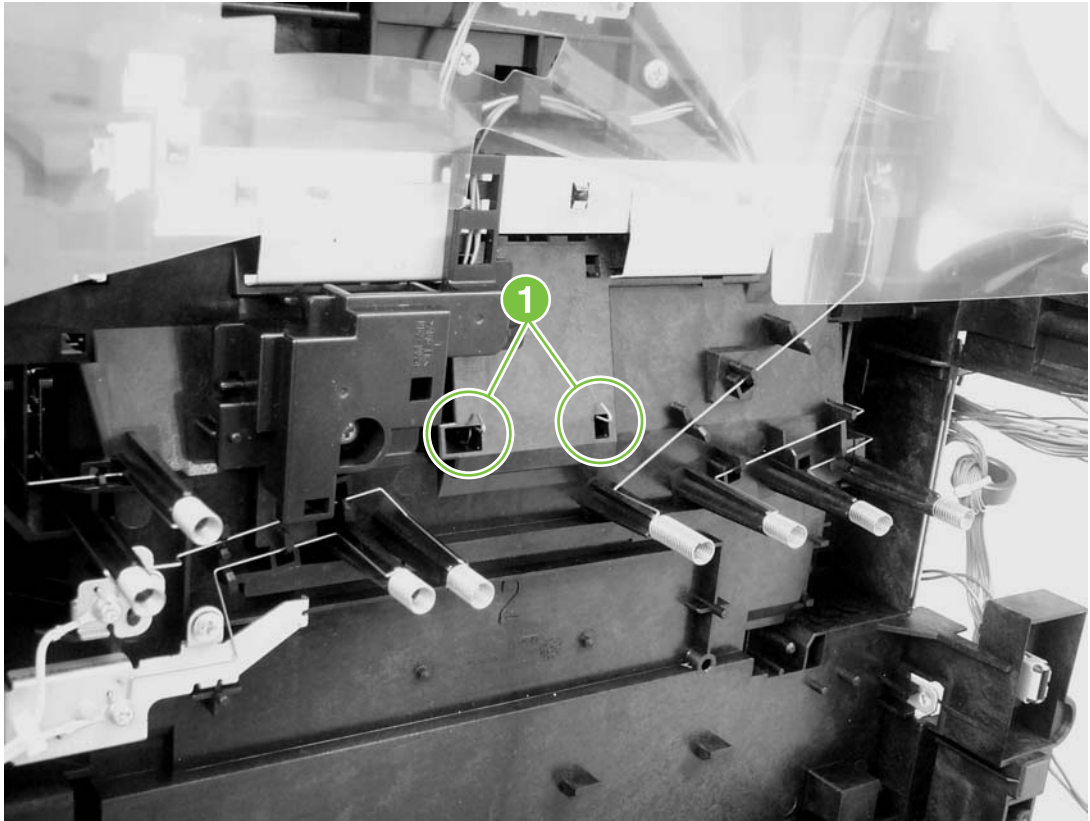

Figure 5-87 Replacing the feed-drive shaft and belts (2 of 8)
- 15 Push the spring clip hooks through the slots in the bottom of the device, and then push the hooks toward the front of the device to fasten them to the bottom of the device (see Figure 5-87 Replacing the feed-drive shaft and belts \(2 of 8\)).